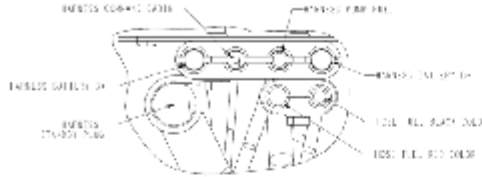

Figure 5
8. Clamp all lines and cables using the originally supplied clamps and mounting bracket (see Figure 5). Ensuring the high voltage cable does not make contact with any of the 12 VDC cables.